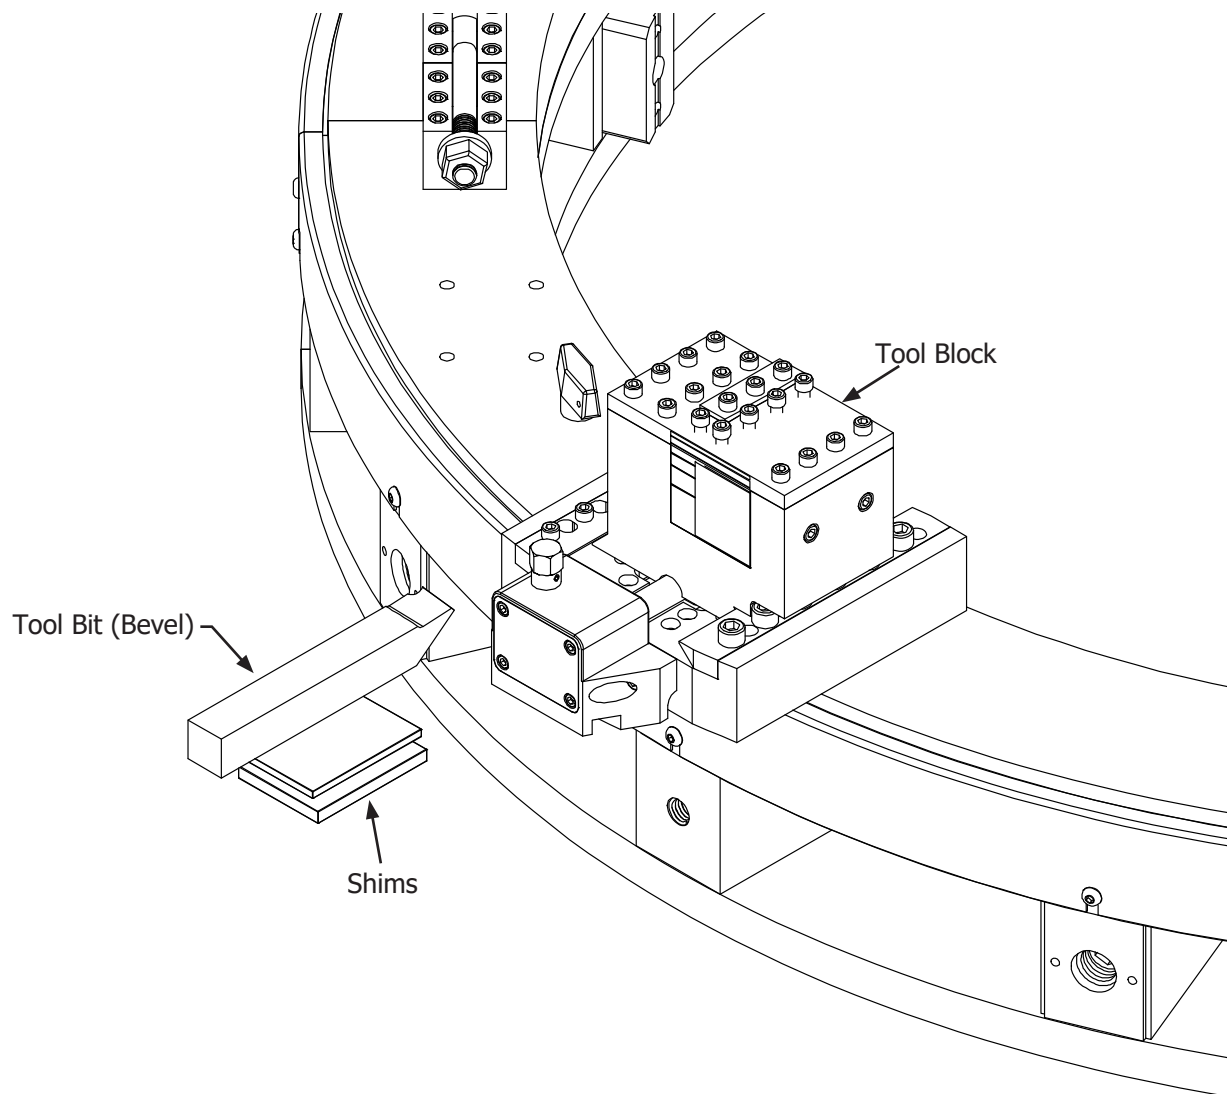

Figure 2-12 – Install Tool Bits and Shims
12. Insert a tool bit into each tool block. Use shims to position the tool bit as necessary. Each tool block must use the same thickness of shims. Limit the distance the tool bit extends out of the tool block for greatest rigidity. A rigid setup will help achieve the best performance, accuracy and quality of cut. See Figure 2-12.